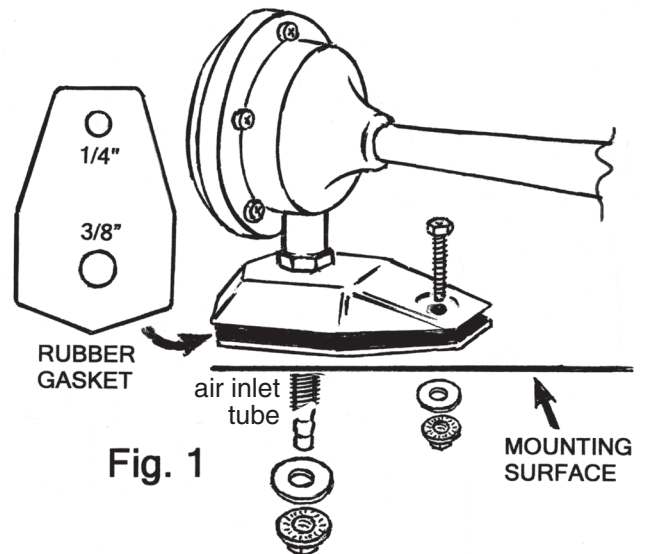

Fig. 1
MOUNTING TRUMPET: Fig. 1 & 2
4. Mount and secure the horn as shown in Fig. 1. **IMPORTANT:** Be sure to use the provided rubber gasket to protect against water leaks. Tighten the base plate front screw and rear nut that threads onto the air inlet tube evenly to ensure a watertight seal.